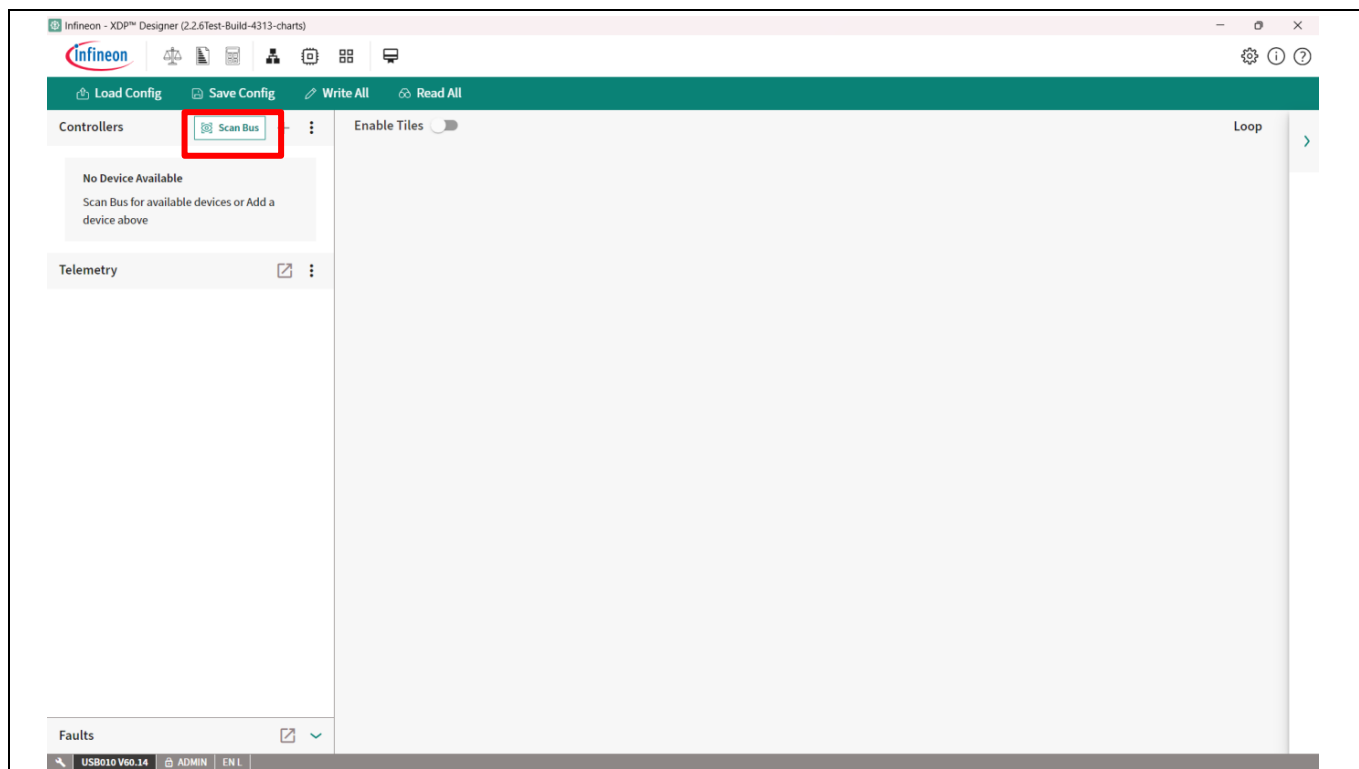

Figure 25 XDP712-001 detection
1. Click **Scan Bus**, as shown in Figure 25